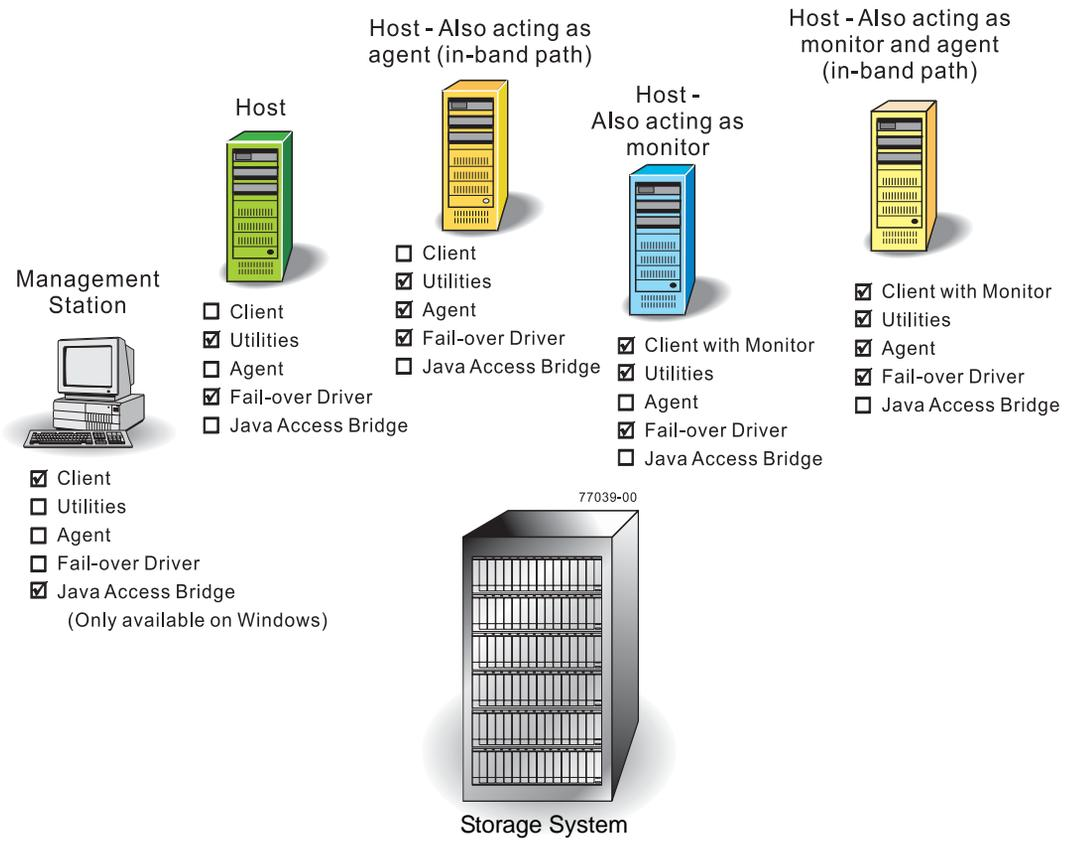

Figure 32 Software Configurations
**NOTE** Use Figure 32 and Tables 7 through 9 on the pages that follow to determine what software should be installed on each machine.